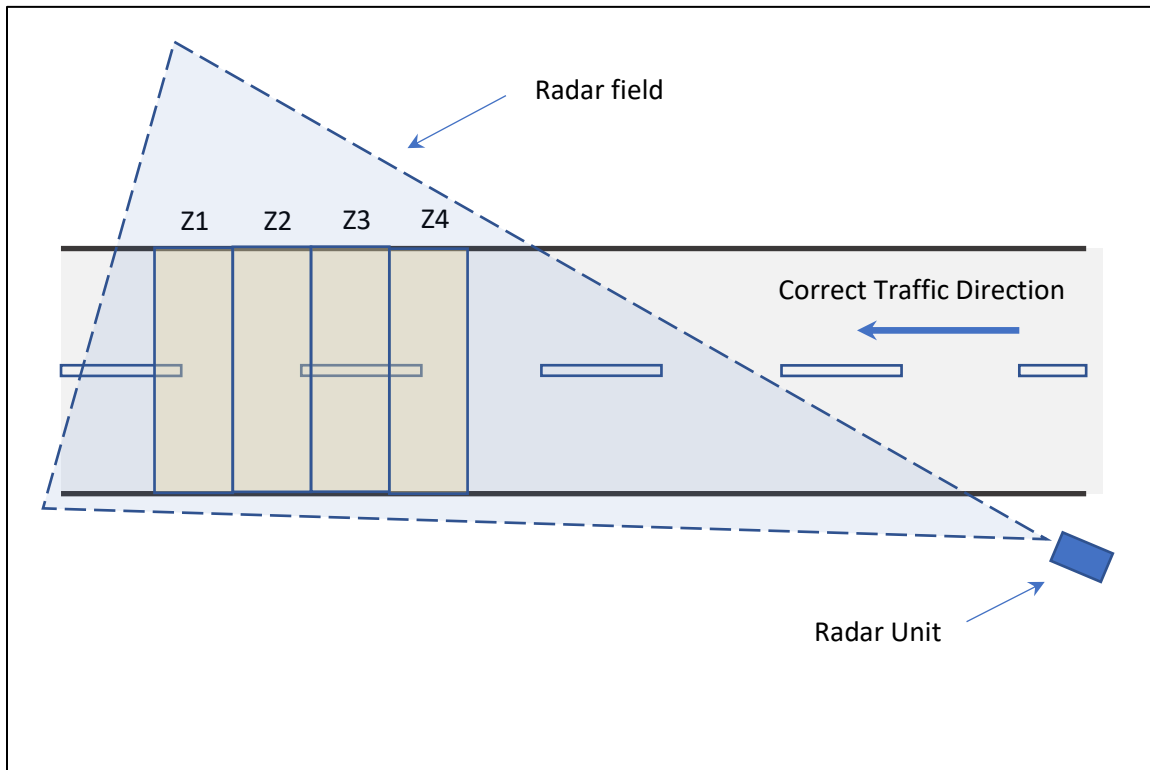

Figure 1-5: Radar Field and detection zones Z1-Z4
An example of a four (4) radar detection zone (Z1-Z4) configuration is shown in Figure 1-5 below. A vehicle driving in the wrong direction will cross the zones starting at Z1 and ending with Z4. Depending on the number of zones activated, the system will start to activate RRFBs and TrafficCams as specified through parameters configured in the Web Interface.